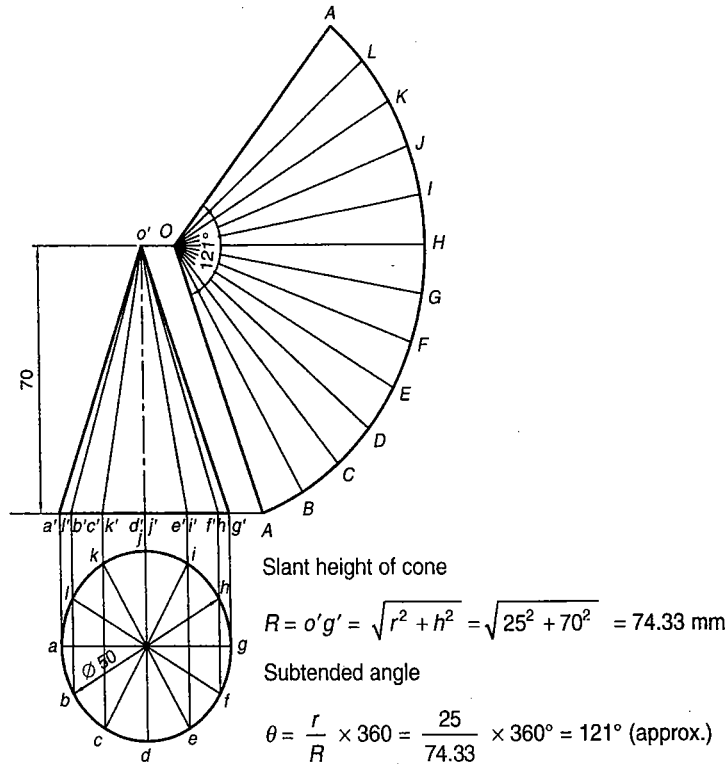

Fig. 13.6 Calculation of  $\theta$
**PROBLEM 13.6 (FIG. 13.6)**
CONSTRUCTION Figure 13.6